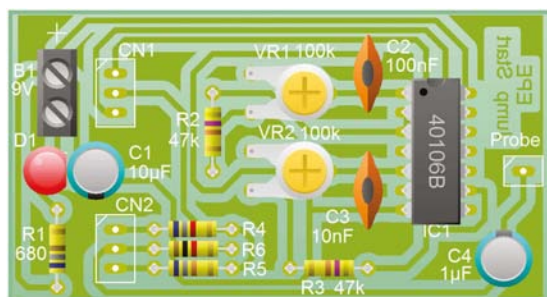

Fig.15. PCB design example (from top to bottom); component layout, and track layout viewed through the board. Final size is 71mm × 38mm
Our PCB design is shown in Fig.15. We set the PCB size when converting to 2.8in (W) × 1.5in (H). This is easily specified using the PCB conversion wizard. These dimensions should fit snugly into the specified probe casing.